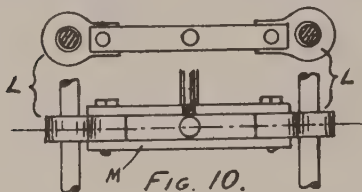

FIG. 10.
crosshead. Make two lugs, shape as shown in Fig. 10 (LL); Drill holes to take the rod which forms the guides, and also supports the cylinder. Then get two pieces of flat steel $\frac{3}{16}$ ths in. wide by $\frac{3}{32}$ nds in. thick, drill a hole in centre of one and tap end of piston rod into same.
Holes must now be drilled in each end of both the flat pieces of steel and also in the ends of the lugs. The holes in the bottom piece, shown as M in Fig. 10, must be tapped to take a bolt which will be passed through the other piece and also the lugs, and so join them together (see Fig. 10.) The slide valve is worked by a